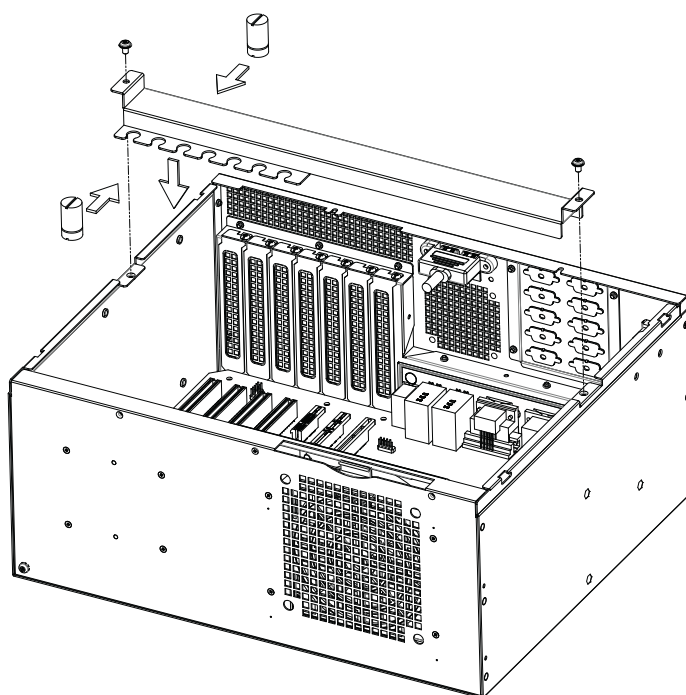

Figure 2.2 Installing hold-down clamp/
- Figure 2.2 Installing hold-down clamp/